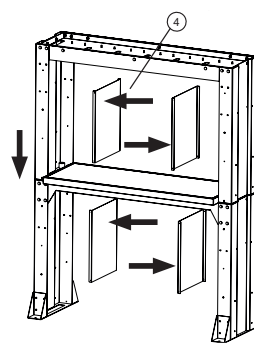
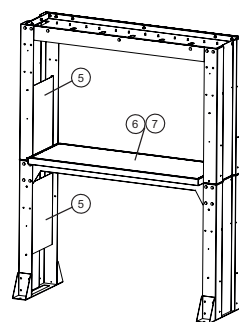

FIG 3
FIG 4
4. Place and screw firmly the upper assembly to the lower one (see fig. 3).
5. Once the fluid pipes are installed, place the tool holding panels (5) on the sides of the upper and lower supports.
6. Place the accessories (6 and 7) (fig. 4).
4. Lyft upp gavlarna och monteringsplattan på benen och stödet (fig 3).
6. Montera ev. tillbehör (6, 7) (fig 4).